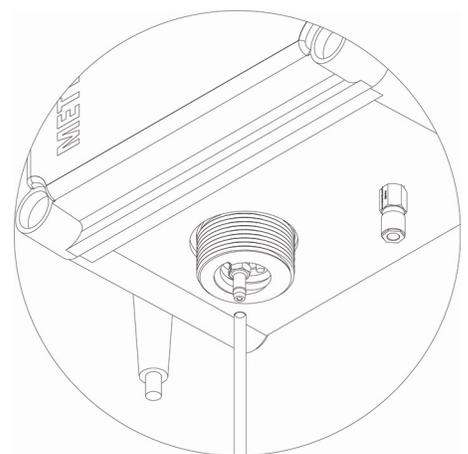

Figure 2. Suction Tube installation
2. Wearing clean protective gloves to avoid contamination, insert a silicone suction tube onto the suction fitting located in the bottle receptacle as shown in Figure 2. A fresh suction tube should be used for each SST test. Protective gloves and a replacement suction tube are provided with each SST solution kit.